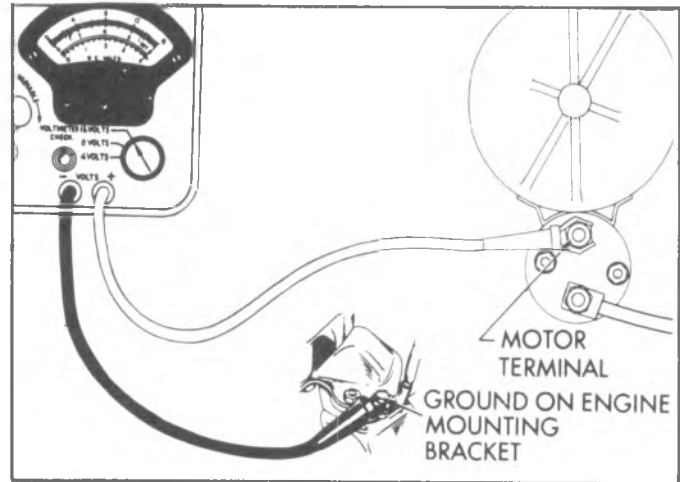

Fig. 6D-12s—Cranking Voltage Test Connections
3. Connect voltmeter positive lead to the motor terminal on solenoid switch; connect voltmeter negative lead to ground (Fig. 6D-12s).